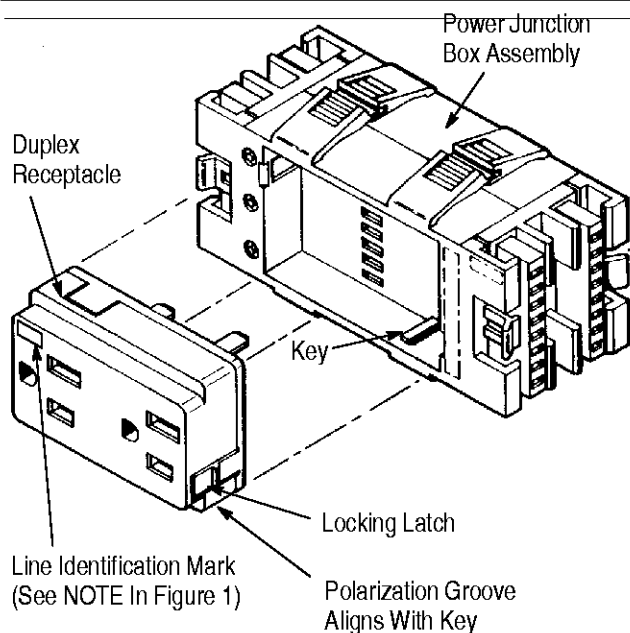

Figure 8
1. Align the groove of the duplex receptacles with the key of the power junction box assembly, as shown in Figure 8.